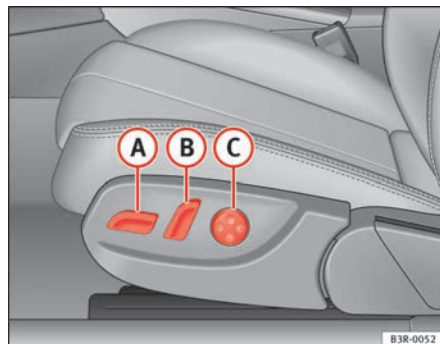
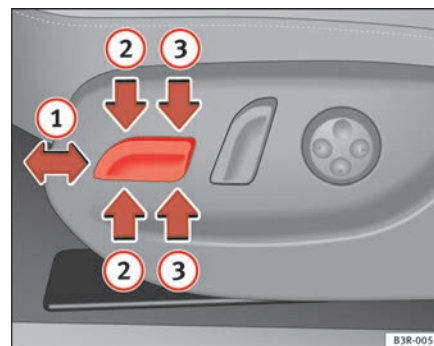

Fig. 105 Front seat: Adjuster controls
Fig. 106 Front seat: Seat adjustment switches
- Press switch **A** ⇒ fig. 105 forwards or backwards **1** ⇒ fig. 106 ⇒ .